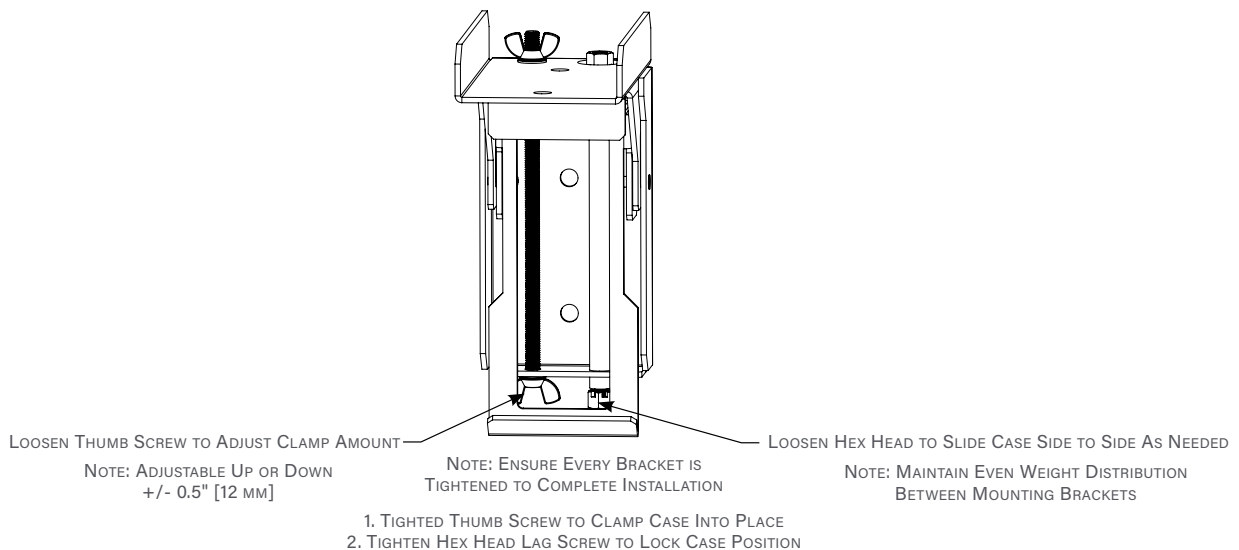

Figure 6
9. Adjustment options (Figure 6):